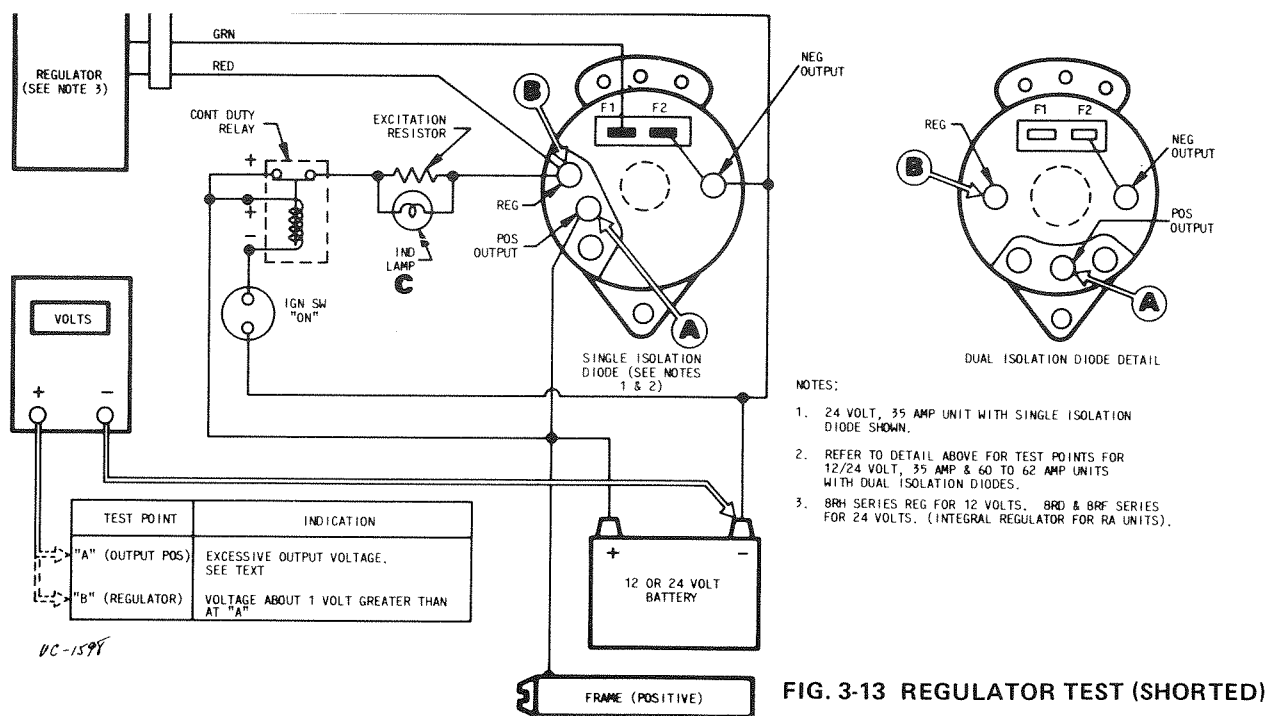

FIG. 3-13 REGULATOR TEST (SHORTED)
**CONDITIONS:** Engine idling (after connecting voltmeter as shown in Figure 3-13).